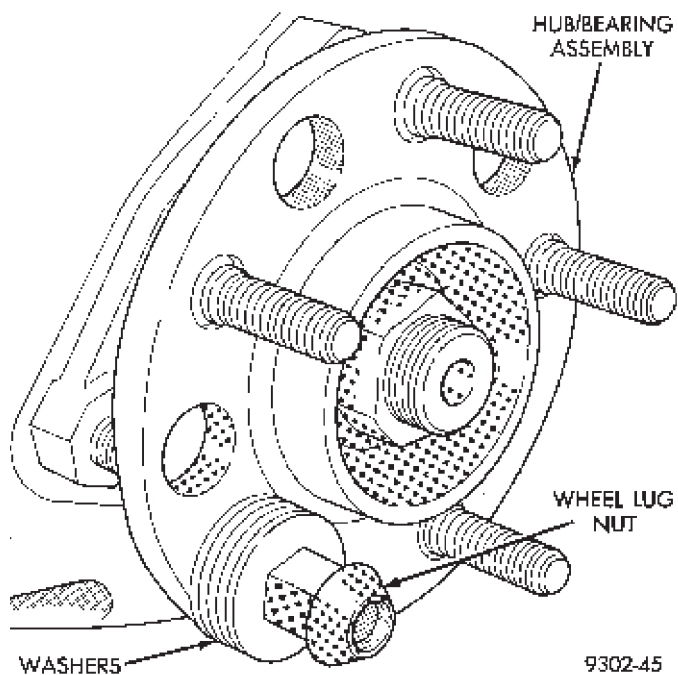
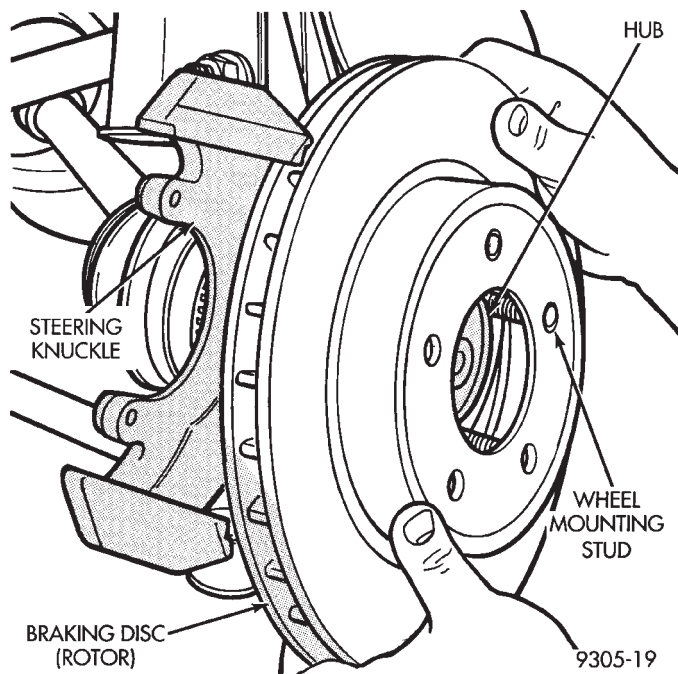

Fig. 4 Installing Wheel Stud Into Hub And Bearing
Fig. 5 Installing Braking Disc
(1) Install replacement wheel stud into flange of hub and bearing assembly. Install washers on wheel stud, then install a wheel lug nut on stud with flat side of lug nut against washers (Fig. 4).
(2) Tighten the wheel lug nut, pulling the wheel stud into the flange of the hub and bearing assembly. When the head of the stud is fully seated against the bearing flange, remove lug nut and washers from wheel stud.
(3) Install the braking disk back on the hub and bearing assembly (Fig. 5).